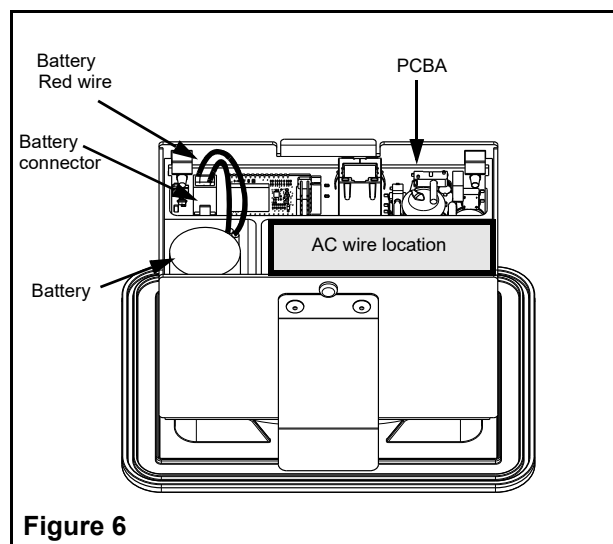

Figure 6
- f. Respecting connector polarity snap connector into PCBA with red wire facing the outer edge of the unit (see figure 6).
- h. Reinstall back box cover and ensure AC wires are inside compartment shown in figure 6.
- c. Respecting connector polarity snap connector into PCBA with red wire facing the outer edge of the unit (see figure 6).